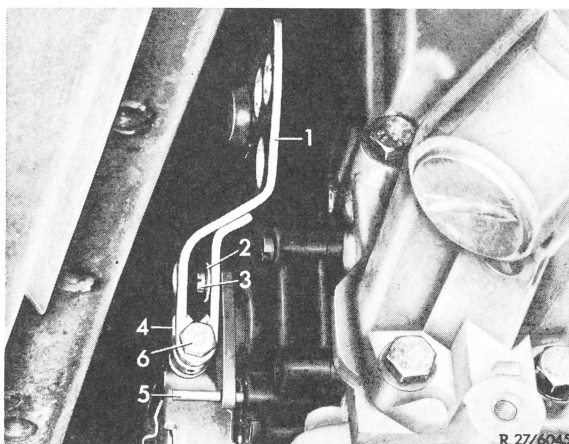

Fig. 2
- 2 Remove range selector lever (1) from shaft by loosening clamping screw (6) (Fig. 2).
- 5 Screw starter locking switch (7) to transmission housing. Tighten fastening screws to 0.5 kpm.
- 6 Place range selector lever (1) on shaft and tighten with clamping screw (6).
- 7 Move range selector lever (1) into position "N" and loosen adjusting screw (3). Insert locating pin (5) through carrier sleeve into locating hole on switch housing, then carefully tighten adjusting screw (3) (tightening torque 0.2 kpm) and pull out locating pin (Fig. 2).